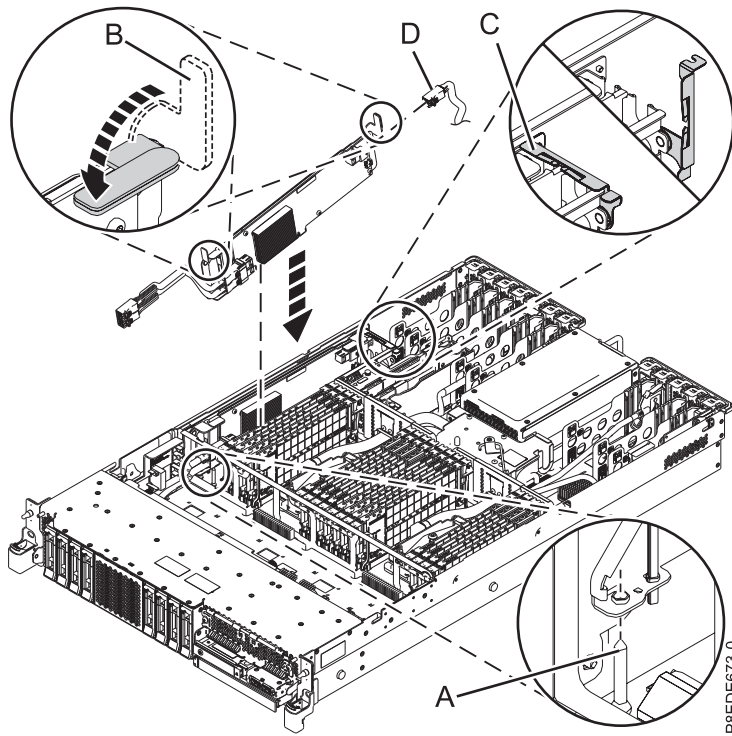

Figure 210. Replacing the PCIe3 x8 cache SAS RAID internal adapter 6 Gb
- a. Route the front SAS cable into position while you are lowering the SAS RAID internal adapter into its slot. Do not fully seat the card into the slot until directed. See Figure 210 on page 207.